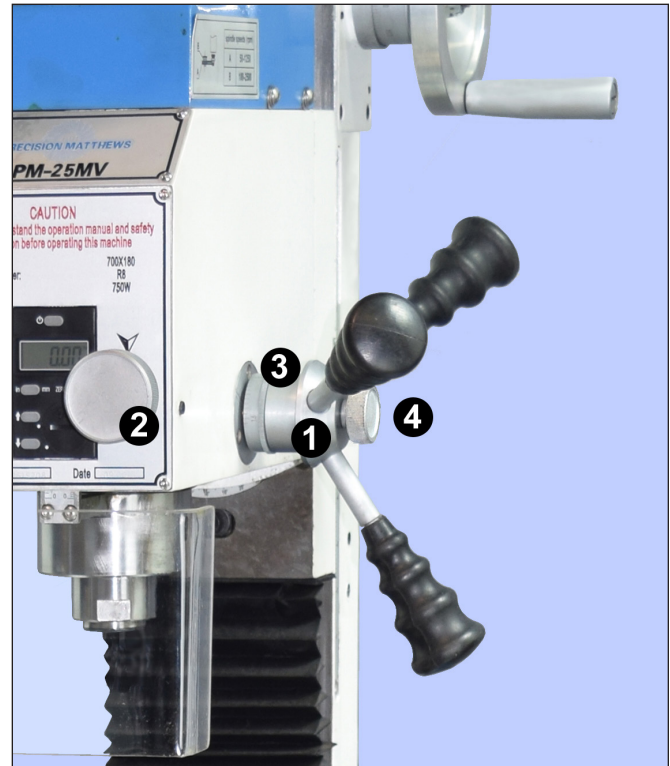

Figure 3-7 **Quill downfeed controls**
### Coarse feed (Figure 3-7)
### Fine feed (Figure 3-7)
4. Engage the fine downfeed, Figure 3-7.